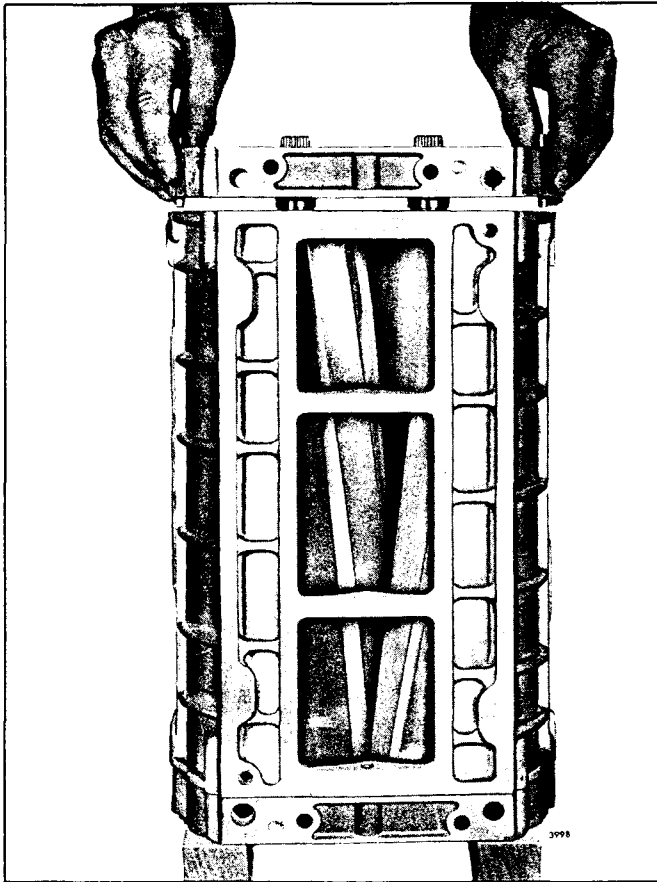

Fig. 15 - Installing Rear End Plate on Blower Rotors and Mounting
6. Position the blower housing over the rotors, rear end of housing up, with the bottom of the housing facing toward the bottom of the end plate (Fig. 15). Lower the housing over the rotors and start it straight on the dowel pins in the front end plate, then push it down tight against the end plate. If necessary, tap the housing lightly with a plastic hammer.
- d. Lower the end plate straight over the rotor shafts until the dowel pins in the end plate contact the blower housing (Fig. 15), then carefully work the dowel pins into the dowel pin holes in the housing